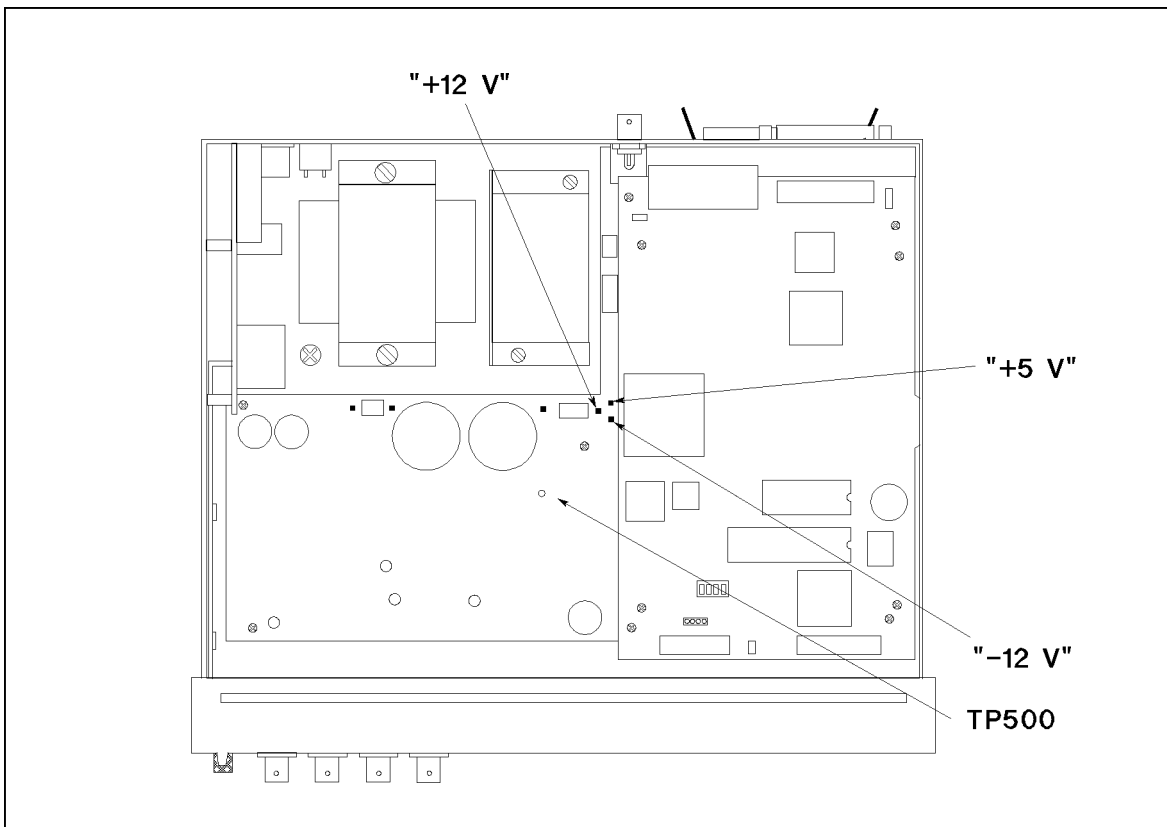

Figure 4-11. DC-DC Converter Output Voltage Check
3. Using a multimeter, check to see if the voltages between the test pads and the ground (TP500) on A1 Main Board Assembly shown in Figure 4-11 are in the ranges shown in Table 4-1.